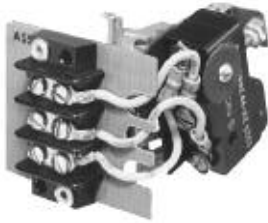

Figure 3
- **Series B** switches are general purpose with a maximum liquid temperature rating of +250° F (+121° C), see Figure 3.
- **Series C** switches are general purpose with a maximum liquid temperature rating of +450° F (+232° C), see Figure 3.
- **Series D** switches are designed for DC current applications with a maximum liquid temperature rating of +250° F (+121° C), see Figure 3.
- **Series O** switches are general purpose with a maximum liquid temperature rating of +300° F (+149° C), used only in model C10 and C15 units, see Figure 3.
- **Series Q** switches are general purpose with a maximum liquid temperature rating of +250° F (+121° C), used only in model C10 and C15 units, see Figure 3.